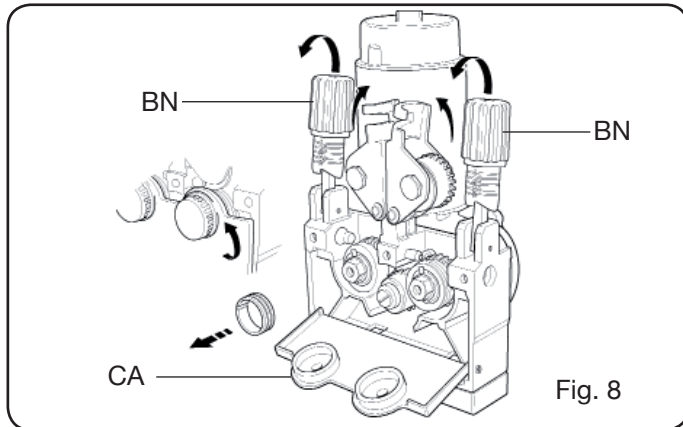

Fig. 8
- Make sure that the groove of the rollers matches the wire diameter used. To replace, proceed as follows (Fig. 8):